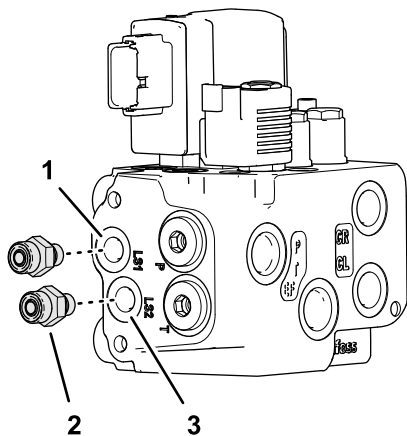

Figure 78
1. Assemble 2 straight hydraulic fittings (-6 x 12 mm) into the EHI steering valve (Figure 78) as follows: